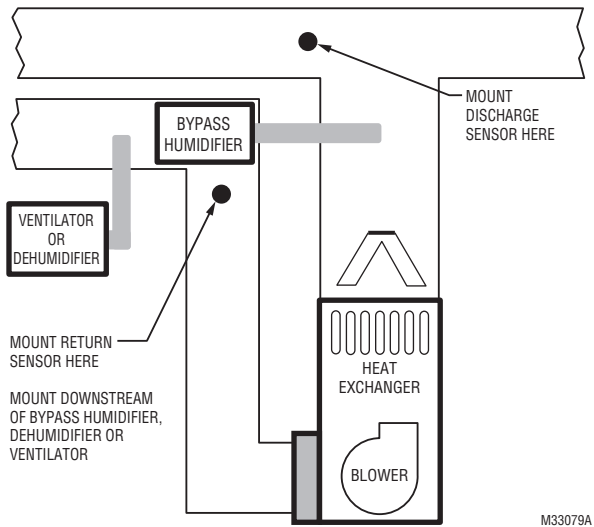

Fig. 63.
2. When possible, mount the Discharge Air Temperature Sensor upstream of a Steam Humidifier, a Fan Powered Humidifier or a Dehumidifier that is ducted to the supply. See Fig. 63–64.